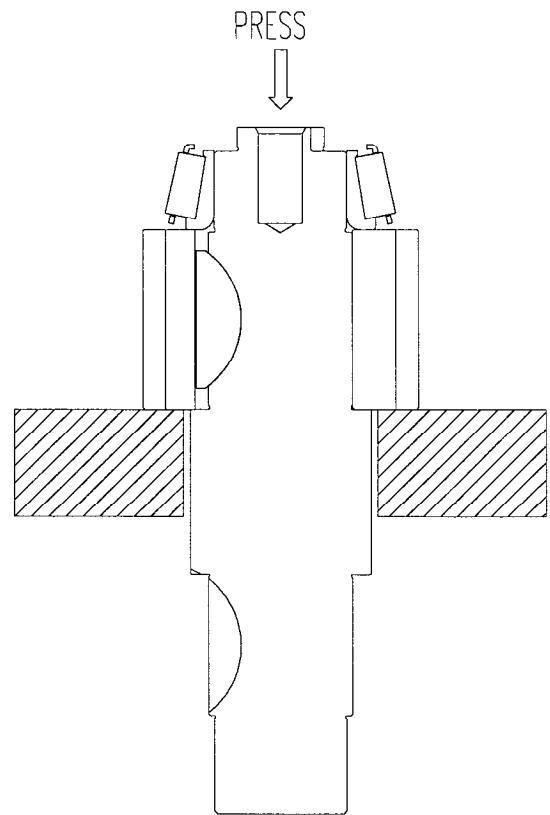

Fig. 34
2. Place the intermediate shaft assembly in a press such that the underdrive gear is supported and the press arbor bears against the end of the shaft. Remove the front bearing cone and the underdrive gear. Remove the shaft key only if necessary. See Fig. 34.